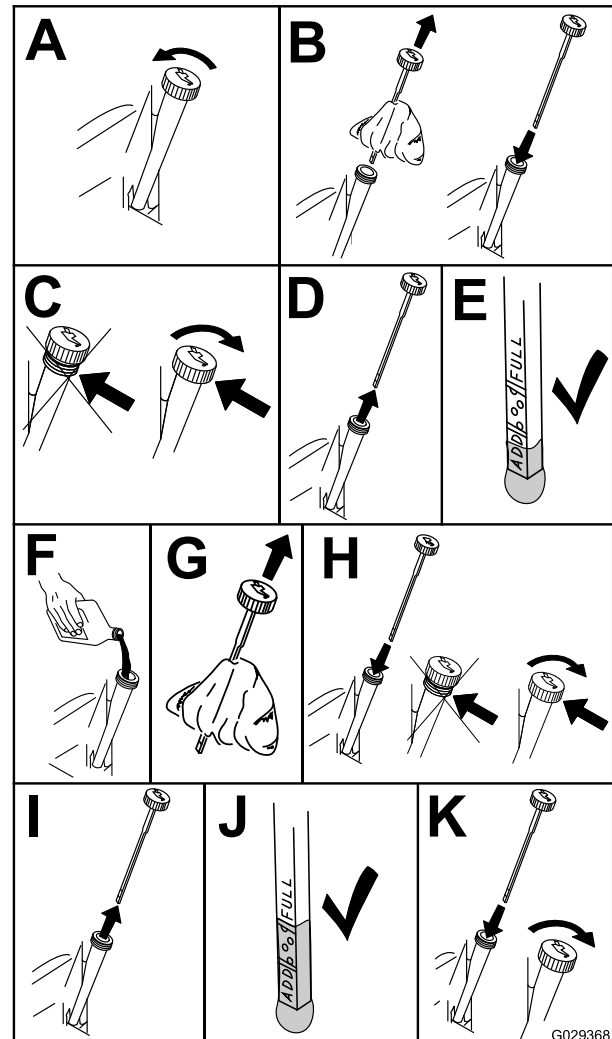

Figure 50
3. To keep dirt, grass clippings, and other debris out of the engine, clean the area around the oil-fill cap and dipstick before removing it (Figure 50).